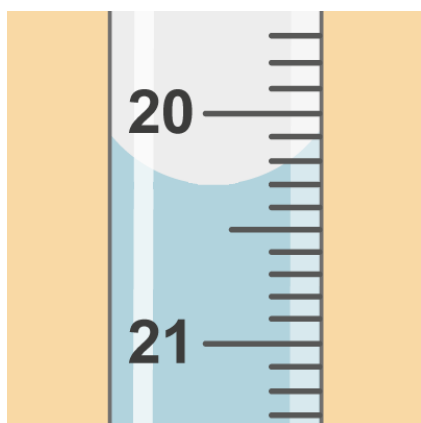

Figure 2. The water meniscus in a burette (note that it is curved).
Volumetric measurements using narrow tubular glassware such as a burette, can be challenging. This is because the surface of the water has a pronounced curvature, the **meniscus**, as shown in Figure 2. Volumetric pipettes and burettes are calibrated to take this into account.
**What is the volume of solution in the burette shown in Figure 2?**